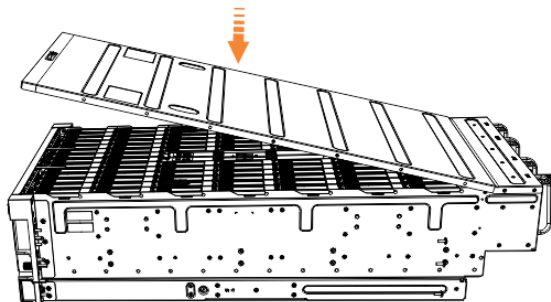

Figure 108. Aligning the top cover
6. Carefully lower the cover and ensure that it is aligned correctly with the back of the enclosure, as shown in Figure 108 on page 151.